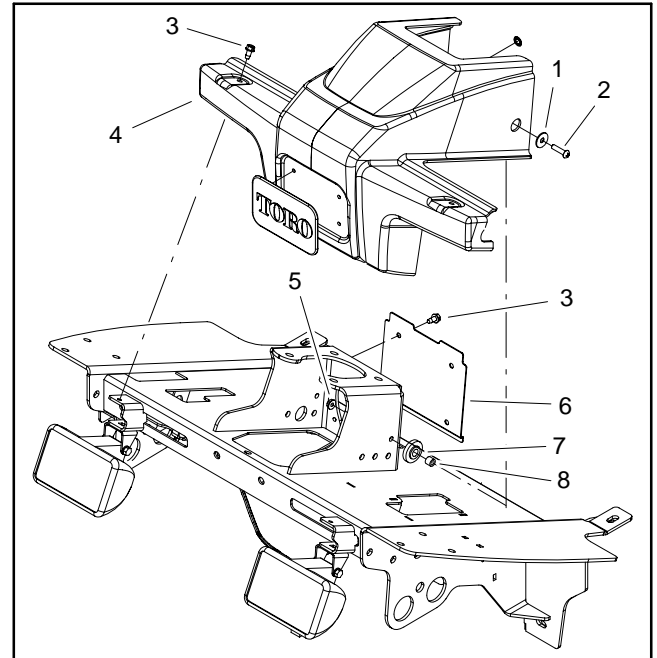
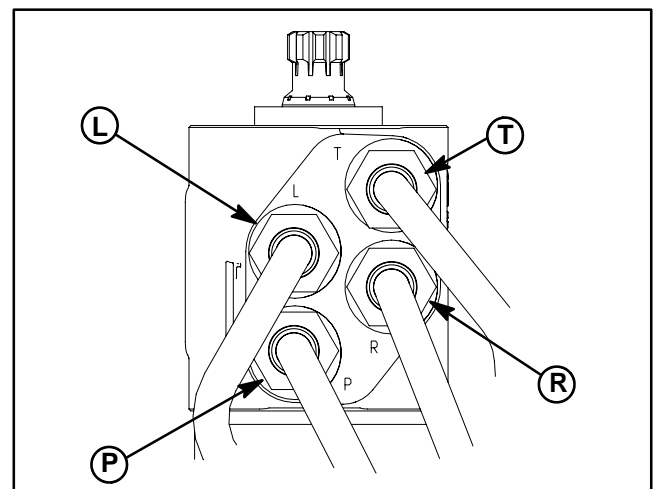

Figure 98
Figure 99
2. Remove fasteners that secure shroud to front of machine (Fig. 98). Remove shroud from machine to allow access to steering control valve. Locate and retrieve two (2) rubber bushings and spacers.
4. Loosen and remove four (4) screws and flange nuts that secure steering column brace (item 13) to machine. Remove brace.
6. Label all hydraulic connections for assembly purposes. Note port designations on steering control valve (Fig. 99). Thoroughly clean hydraulic connections prior to loosening hydraulic lines.
3. Slide steering control valve shaft into steering column universal joint. Position control valve with ports toward front of machine. Secure steering control valve to steering column with four (4) socket head screws. Torque screws in a criss-cross pattern from **84 to 120 in-lb (9.5 to 13.5 N-m)**.
4. Position steering column assembly to machine. Secure steering column in place with two (2) socket head screws and flange nuts at rear two mounting holes.
7. Position steering column brace (item 13) to machine and secure with four (4) screws and flange nuts.
9. Place rubber bushings and spacers into holes of shroud (Fig. 98). Position shroud in place and secure with removed fasteners.